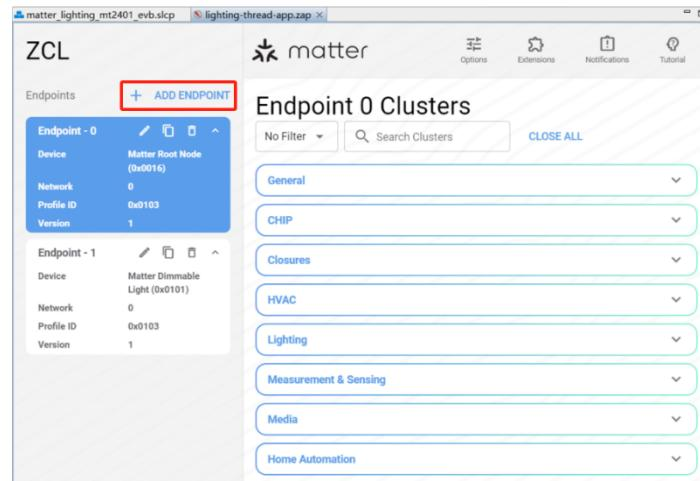

Figure 8.5
2) In the pop-up window, click "+ADD ENDPOINT" to add endpoints, as shown in figure 8.5